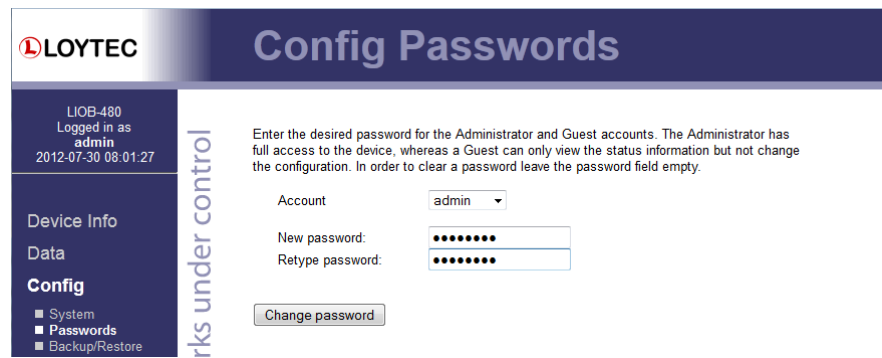

Figure 31: Password Configuration Screen
The Config menu opens. Click on **Passwords** in the Config menu, which opens the password configuration page as shown in Figure 31. The device has three user accounts: (1) **guest** allows the user to view certain information only, e.g., the device info page. By default the guest user has no password. (2) **operator** is able to read more sensible information such as calendar data. (3) **admin** has full access to the device and can make changes to its configuration. Note that the user accounts are also used to log on to the FTP and Telnet server.